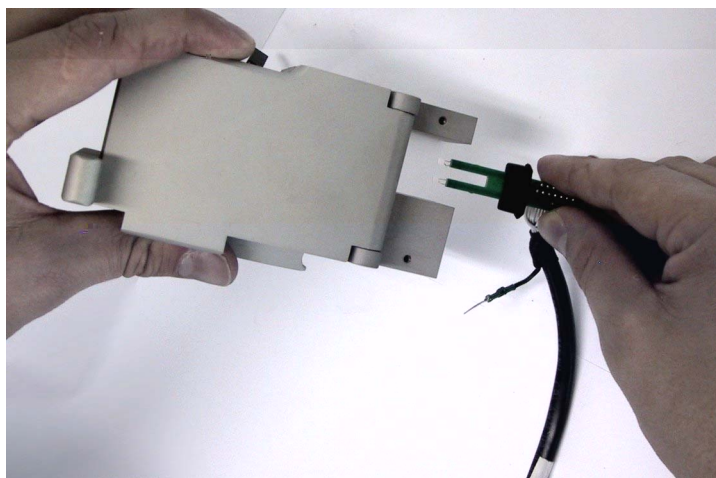

Figure 11 Remove Sensor from Chamber
5. Turn the unit around and carefully lift the chamber out of its place. Set down the GC25 and carefully remove the sensor unit from the chamber, see the following Note and refer to Figure 11 on page 29.